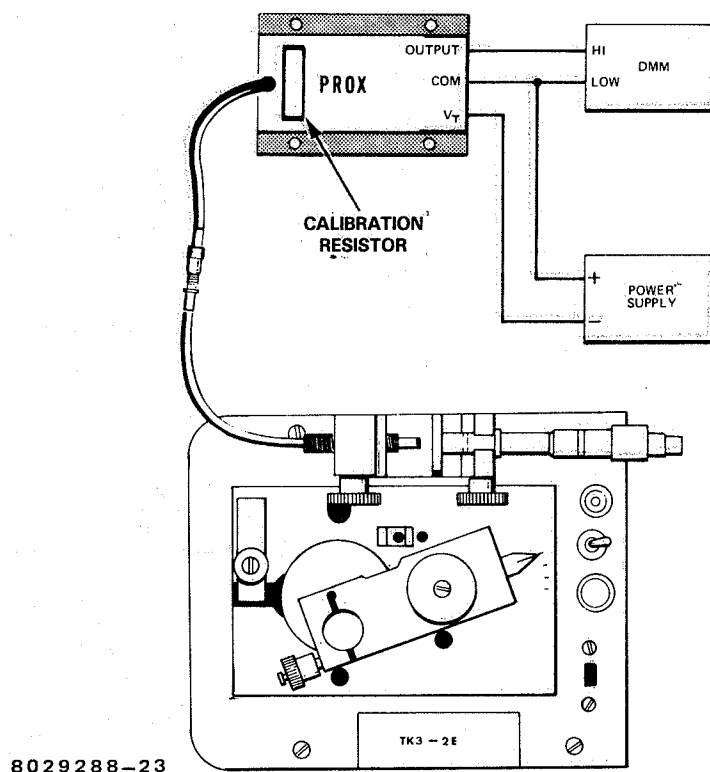

Figure 3-1. Test Equipment Setup
- a. Connect test equipment as shown in Figure 3-1.
- a. Remove the protective assembly from the calibration resistor on the Proximator. Unsolder and remove the calibration resistor (see Figure 3-1).